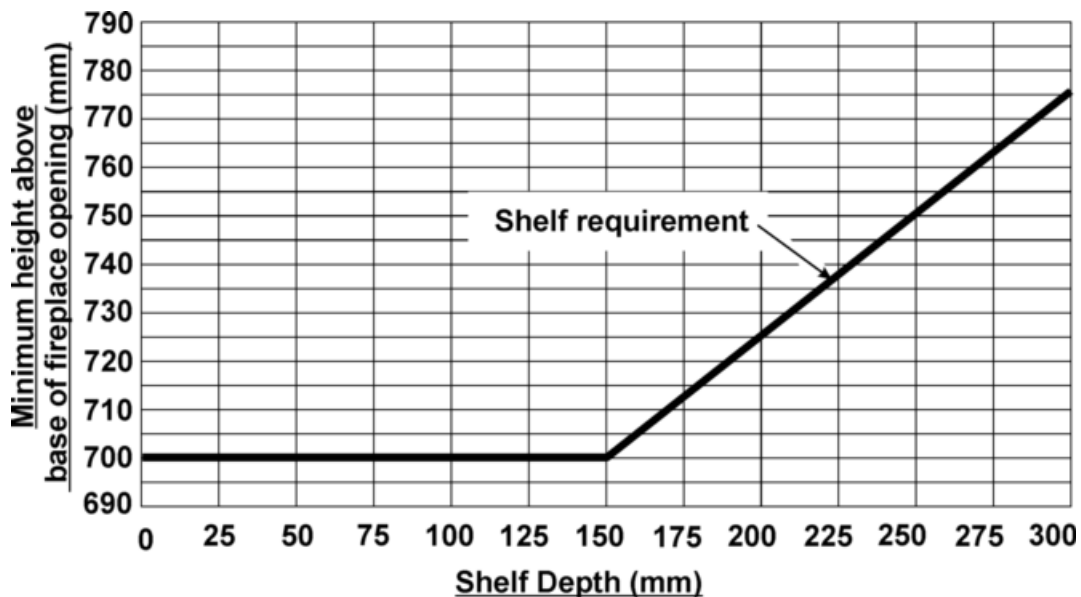

Figure 1. Combustible shelf clearances
- For a shelf deeper than 150mm: 700mm + 12.5mm for every 25mm depth over 150mm (See Figure 1).